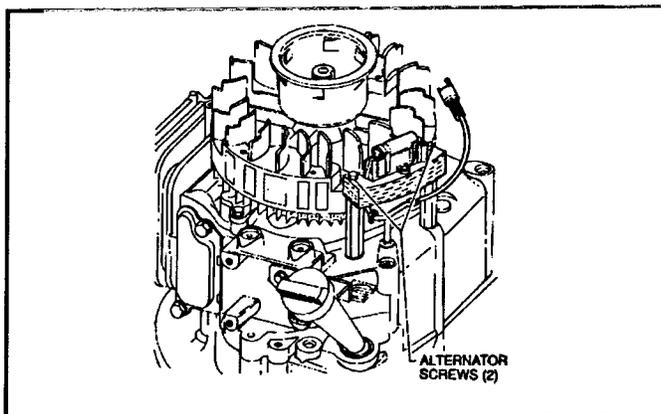

Figure 49
1. Remove the two 5/16" hex, washer head cap screws retaining the alternator. See Figure 49.